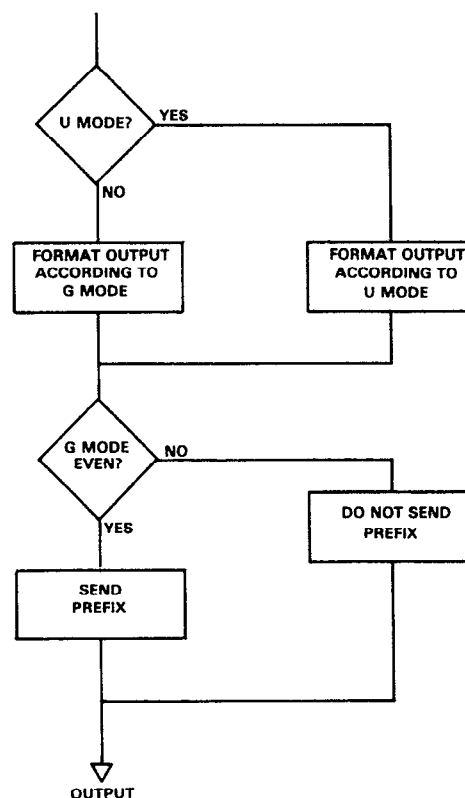

Figure 3-6. U and G Mode Sequence
U0—Sending U0 command outputs the present channel number. The present channel number can be sent with or without a prefix depending on the present prefix mode (G). Refer to the flowchart in Figure 3-6 for the sequence of sending the U and G modes. Refer to paragraph 3.5.8 step 7 for information concerning the prefix modes and their formats.
U1—Sending the U1 command outputs all the channel numbers. All the channel numbers can be sent with or without a prefix depending on the present prefix mode (G). Refer to the flowchart in Figure 3-6 for the sequence of sending the U and G modes. Refer to paragraph 3.5.8 step 7 for information concerning the prefix modes and their formats.
U2—Sending the U2 command outputs the digital I/O port status. The digital I/O port status can be sent with or without a prefix depending on the present prefix mode (G). Refer to flowchart in Figure 3-6 for the sequence of sending the U and G modes. Refer to paragraph 3.5.8 step 7 for information concerning the prefix modes and their formats.
U3—Sending the U3 command outputs the time and date. The time and date can be sent with or without a prefix depending on the present prefix mode (G). Refer to the flowchart in Figure 3-6 for the sequence of sending the U and G modes. Refer to paragraph 3.5.8 step 7 for information concerning the prefix modes and their formats.
U4—Sending the U4 command outputs the status word. The status word can be sent with or without a prefix depending on the present prefix mode (G). Refer to the flowchart in Figure 3-6 for the sequence of sending the U and G modes. Refer to paragraph 3.5.8 step 7 for information concerning the prefix modes and their formats.
U5—Sending the U5 command outputs the channel settle time. The channel settle time can be sent with or without a prefix depending on the present prefix mode (G). Refer to the flowchart in Figure 3-6 for the sequence of sending the U and G modes. Refer to paragraph 3.5.8 step 7 for information concerning the prefix modes and their formats.
U6—Sending the U6 command outputs the alarm time. The alarm time can be sent with or without a prefix depending on the present prefix mode (G). Refer to the flowchart in Figure 3-6 for the sequence of sending the U and G modes. Refer to paragraph 3.5.8 step 7 for information concerning the prefix modes and their formats.
U7—Sending the U7 command outputs the interval time. The interval time can be sent with or without a prefix depending on the present prefix mode (G). Refer to the flowchart in Figure 3-6 for the sequence of sending the U and G modes. Refer to paragraph 3.5.8 step 7 for information concerning the prefix modes and their formats.
U8—Sending the U8 command outputs the programmed first and last channel. The programmed first and last channel can be sent with or without a prefix depending in the present prefix mode (G). Refer to the flowchart in Figure 3-6 for the sequence of sending the U and G modes. Refer to paragraph 3.5.8 step 7 for information concerning the prefix modes and their formats.
U9—Sending the U9 command outputs the previously called buffer location. The buffer location can be sent with or without a prefix depending on the present prefix (G) mode. Refer to the flowchart in Figure 3-6 for the sequence of sending the U and G modes. Refer to paragraph 3.5.8 step 7 for information concerning the prefix modes and their formats.